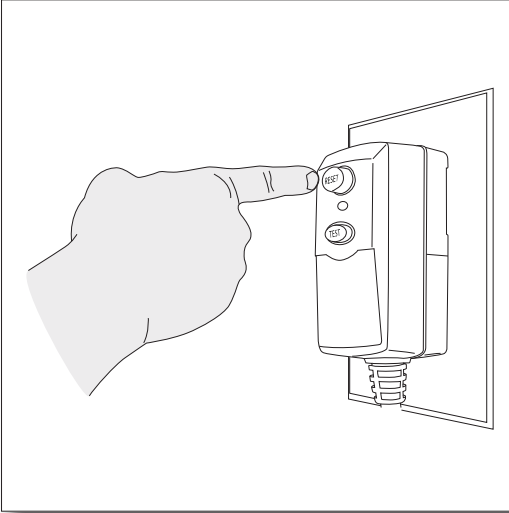

Fig.21
- Unwind the power cord completely and plug the GFCI into a grounded 120 volt outlet. Press the '**reset**' button on the GFCI box (**Fig. 21**). The indicator window should show a red color. This must be done each time the unit is plugged in.